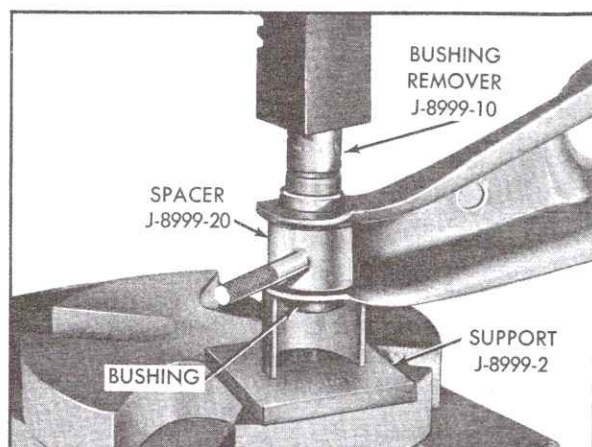

Fig. 3-23 Removing Bushing from Lower Arm
5. Position Bushing Remover, J-8999-10, on sleeve, Fig. 3-23, and press bushing out of arm.